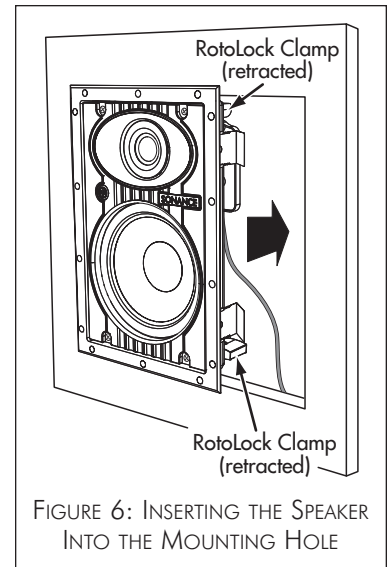

FIGURE 6: INSERTING THE SPEAKER INTO THE MOUNTING HOLE
4. Make sure all the RotoLock clamps are retracted so that they are tucked within the mounting hole's border. Insert the speaker into the hole in the wall (*Figure 6*). The RotoLock system can accommodate a maximum wall material thickness of 1¼".